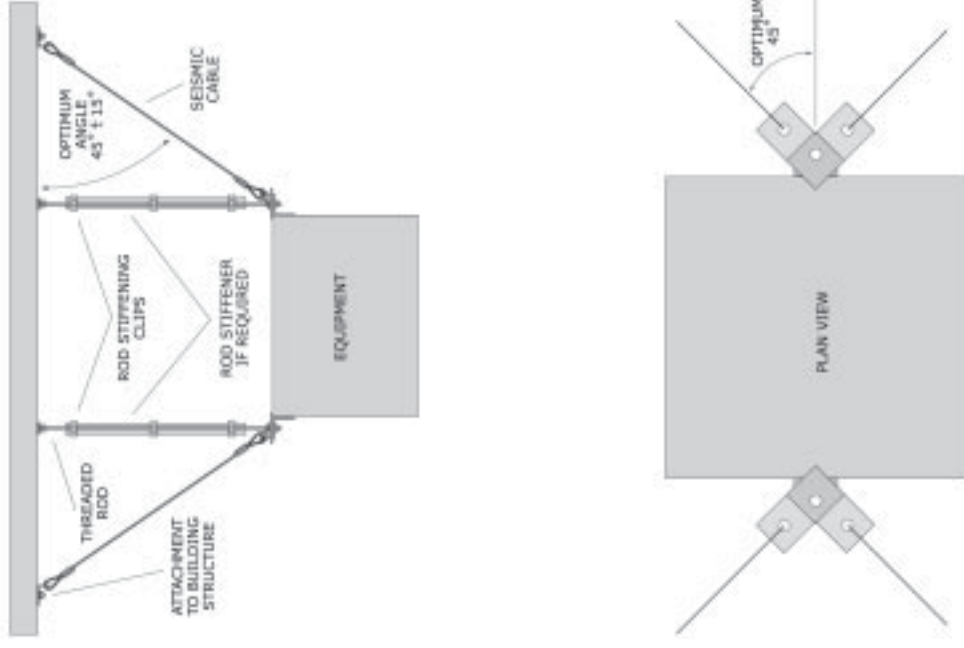

Figure 94: Two-point equipment attachment.
**The equipment attachment should be located just above the center of gravity of the equipment to minimize swaying. It should be a rigid attachment with brackets to the equipment using double nuts and washers, especially if connected at the top as shown in Figure 94 (page 93).**